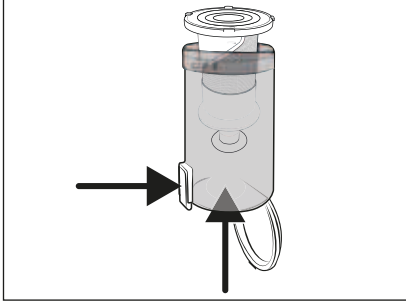

Fig. 18
- 3) Remove the stainless steel filter **6** from the dust container **7** by pressing the dirt container lid release button **8**. Then slide the stainless steel filter **6** out of the dust container **7** from below (see Fig. 18).